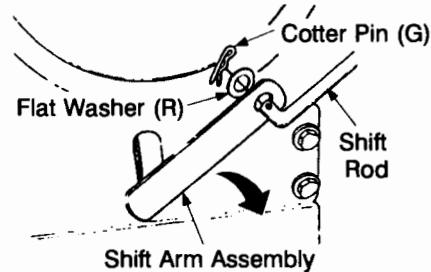

FIGURE 13
- Insert the end of the lower shift rod with the small hole into the shift arm assembly, located outside the snowthrower frame. Secure with flat washer (R) and cotter pin (G) (washer and cotter pin should be on the engine side of the bracket). See Figure 13.